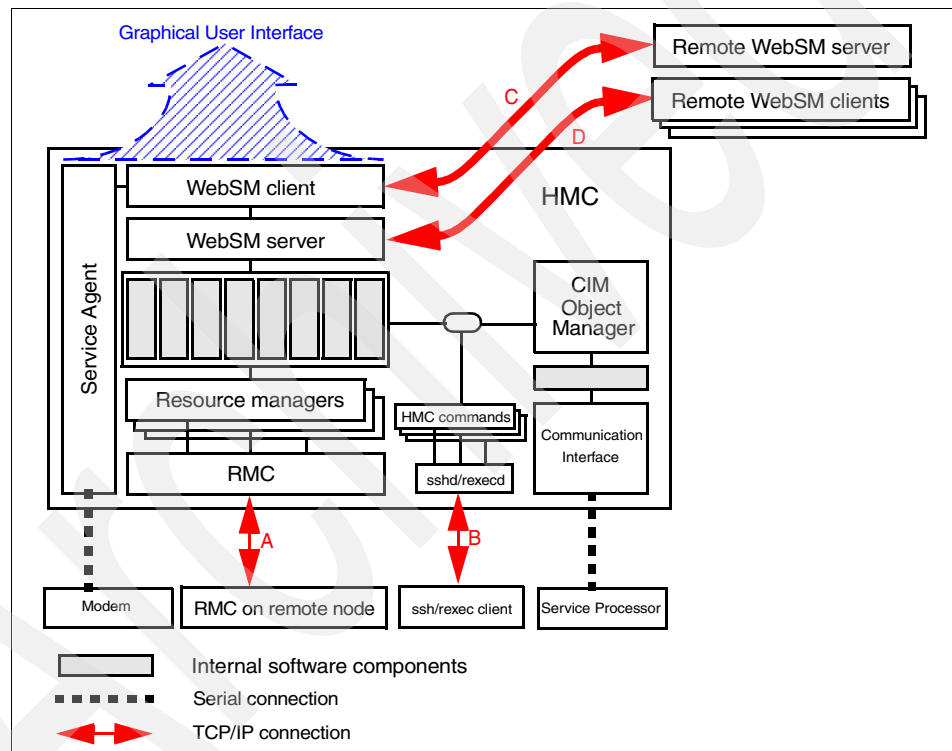

Figure 1-9 HMC software architecture overview¹¹
Figure 1-9 on page 17 shows an overview of the HMC software architecture.
- ▶ The Resource Monitoring and Control (RMC) subsystem on the HMC connects the RMC subsystem on remote nodes, such as partitions, over the TCP/IP network (shown as A in Figure 1-9 on page 17).